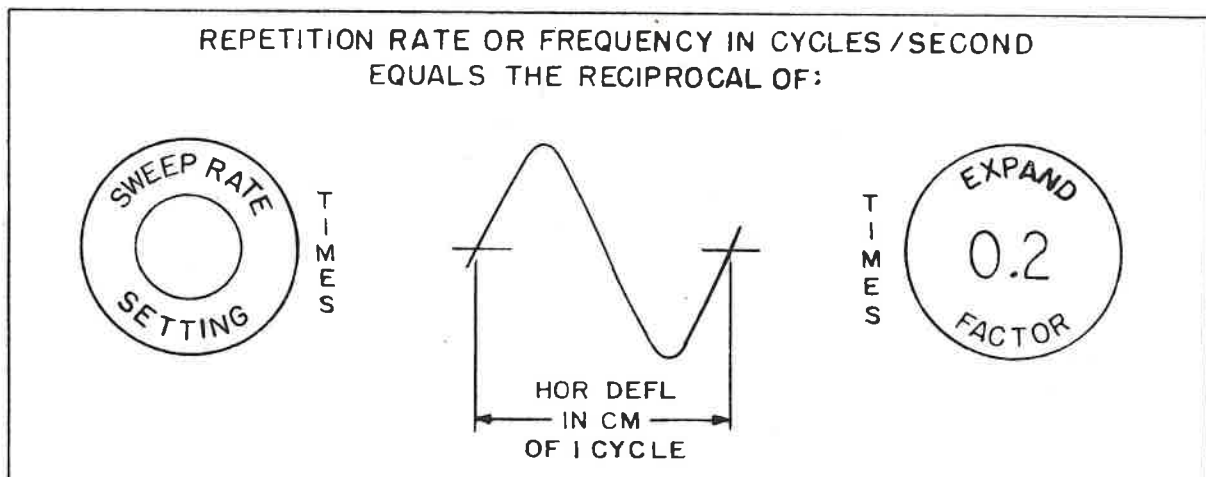

Figure 3-9. Finding the Frequency When Expand Switch is Set to X5
step 3 (that is, divide it into one). The resulting quotient is the desired frequency or repetition rate in cycles per second. See Figure 3-9.